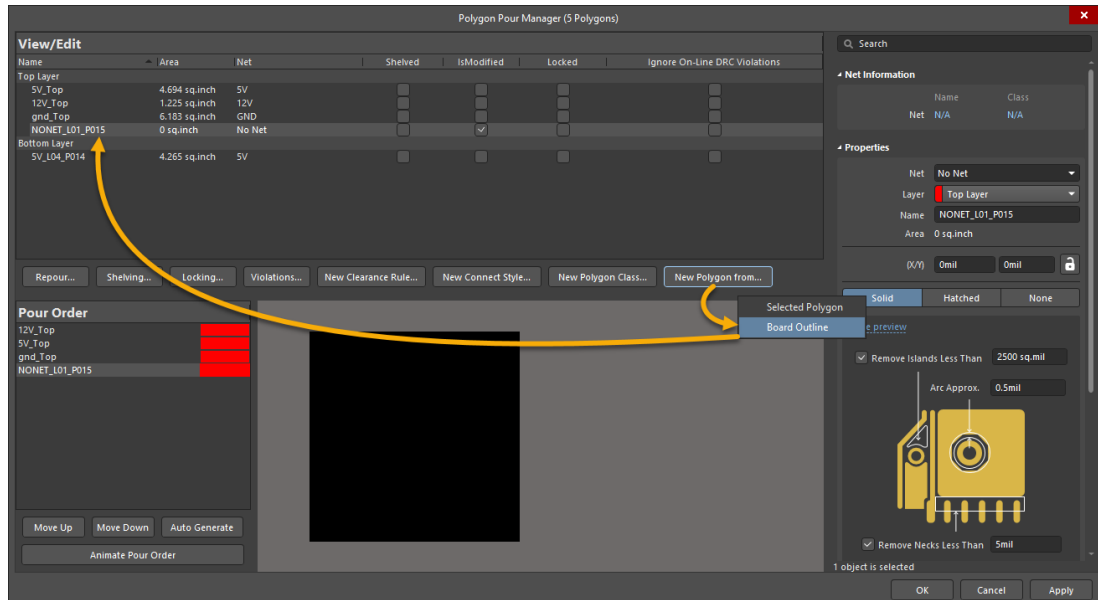

Figure 12. Creating a polygon from the board outline in the Polygon Manager
39. Click on **New Polygon from...** then select **Board Outline** as seen in Figure 12. A new Polygon will be added in the Polygon Pour Manager.